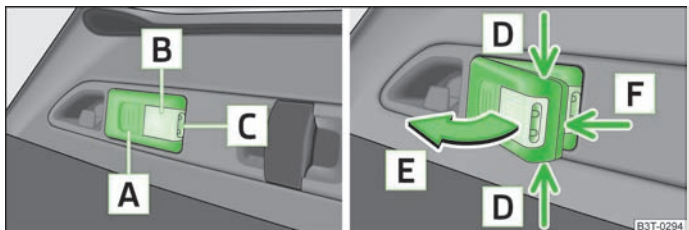

Fig. 44 Removable lamp
- › lighting the luggage compartment - it illuminates part **B** » Fig. 44 (the lamp is in the holder),
- › Grasp the lamp in the areas of the arrows **D** » Fig. 44 and swivel it in the direction of the arrow **E**.
- If the lamp is not switched off and it is correctly inserted in the holder, the bulbs in the front part **C** » Fig. 44 of the lamp are automatically switched off.
- › Lever off the cover for the rechargeable batteries with a narrow and pointed object from the location of the lock-off clips **F** » Fig. 44.